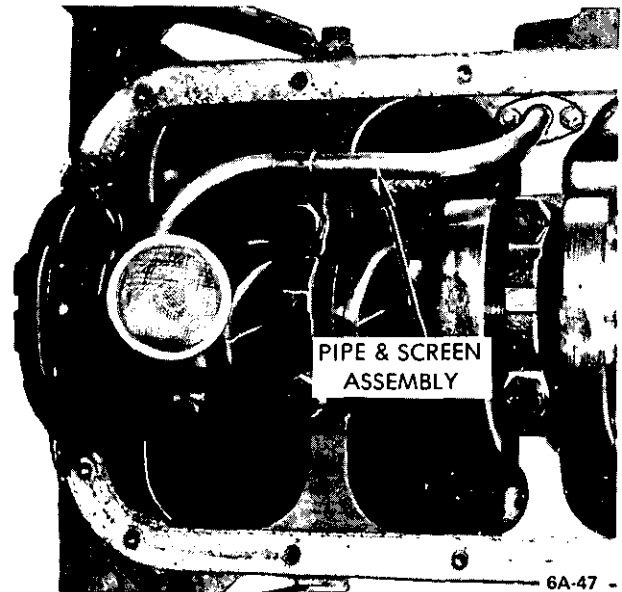

Figure 6A-47 Installation of Pipe and Screen Assembly
3. Remove (2) bolts holding pipe and screen assembly to cylinder block. See Figure 6A-47.